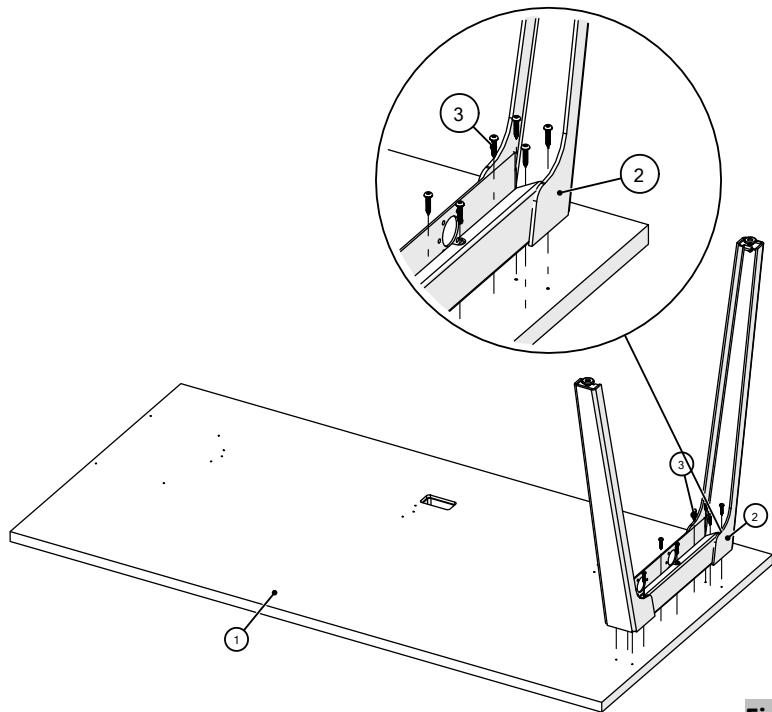

Figure 1
- 2. Position the A-leg over pilot holes in underside of worksurface; attach the A-Leg to worksurface using the (10) #10 x 1" Pan Head Screws, (Figure 1).